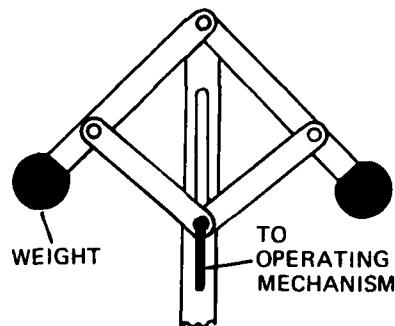

Figure 1
- A governor which prevents overspeed. (See Figure 1)